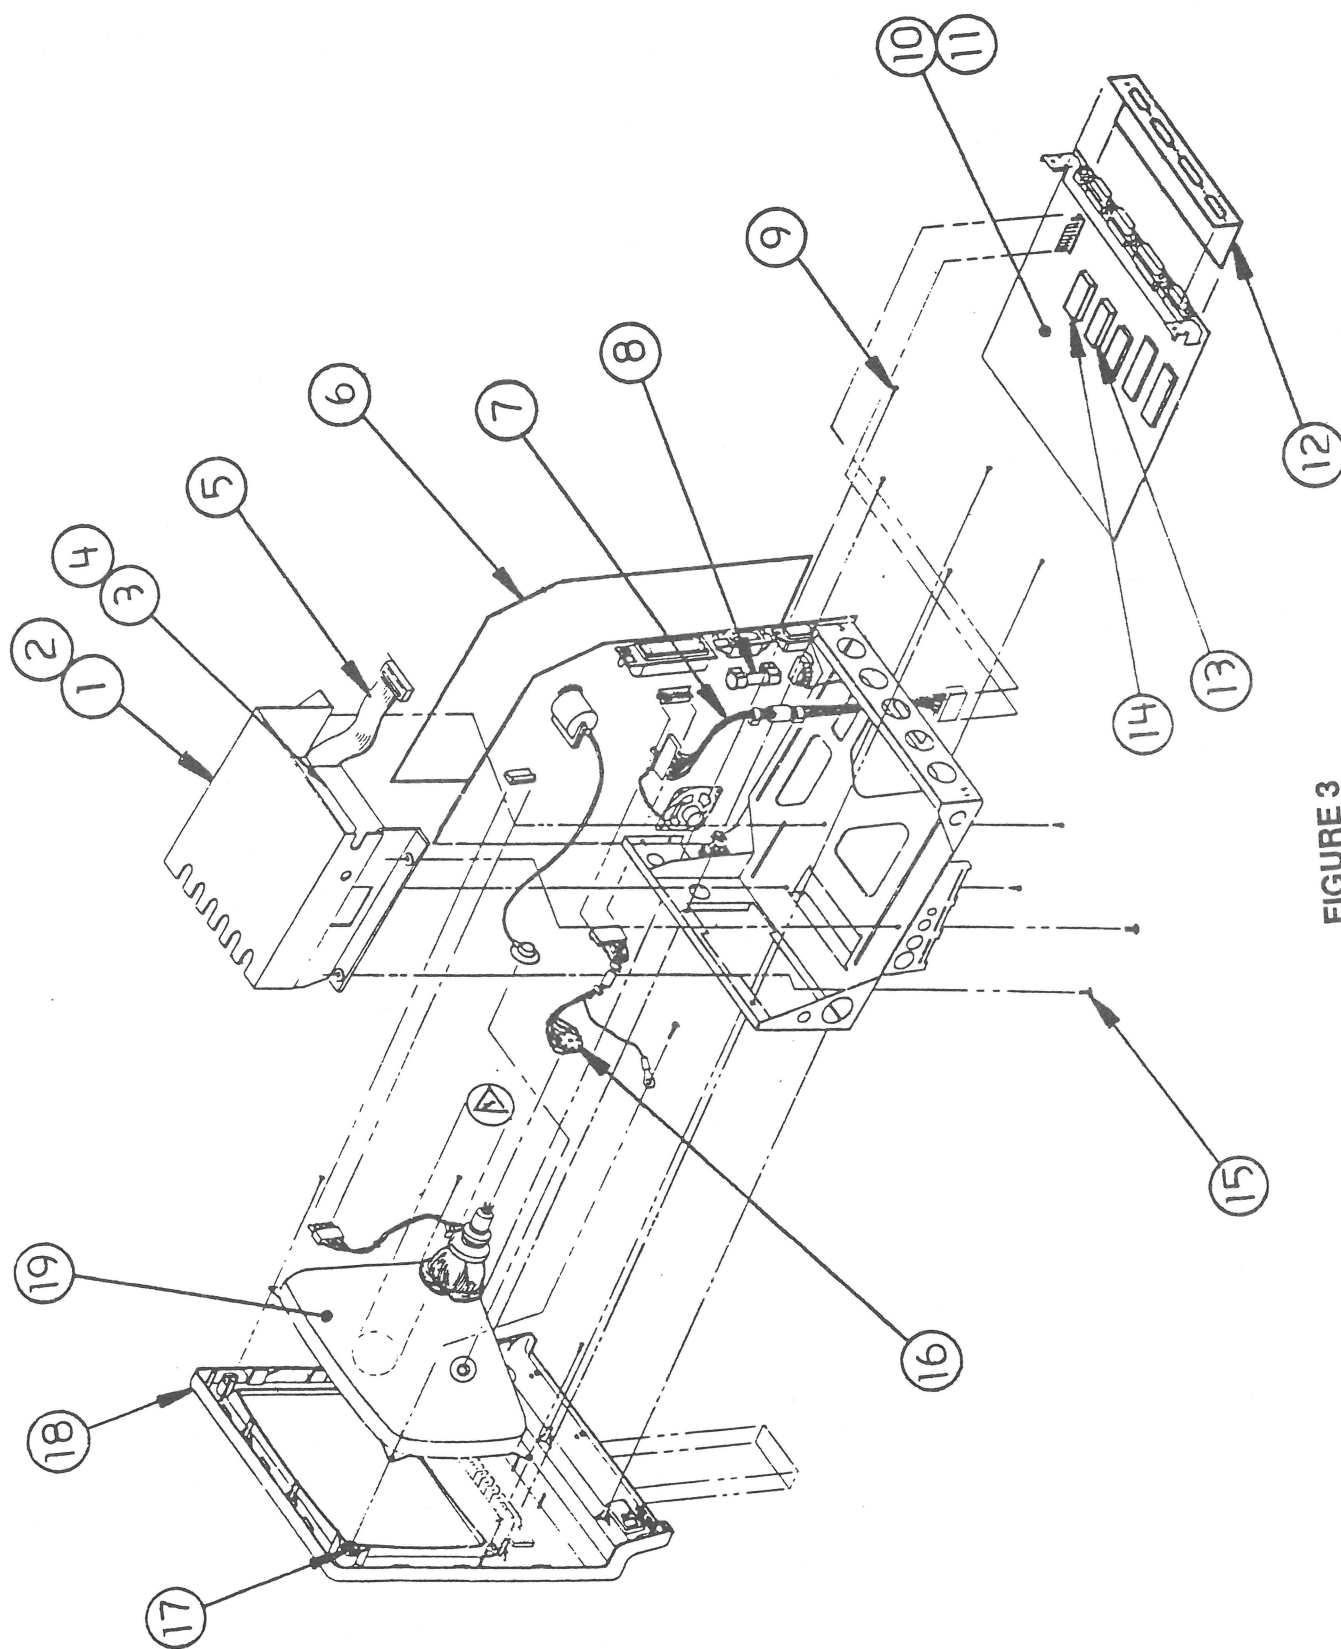

FIGURE 3
- 7.7 Macintosh Exploded View (Figure 3)
□ MACINTOSH—EXPLODED VIEW (Figure 3)